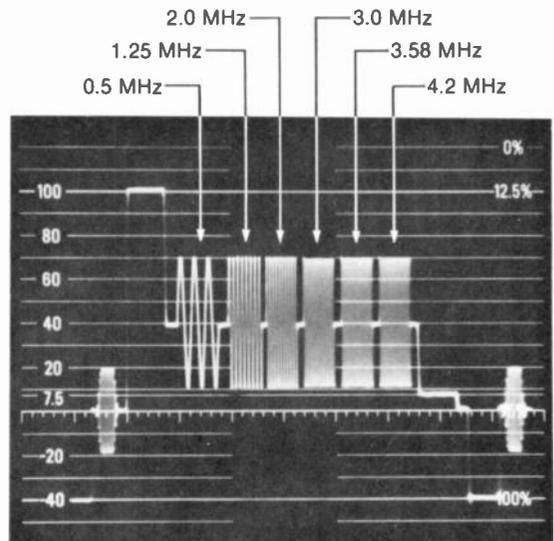
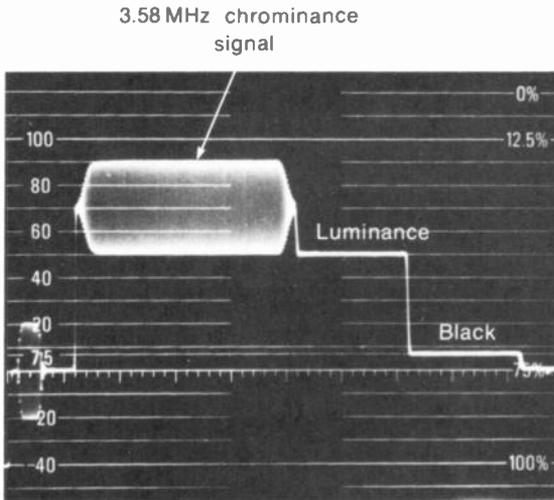

FIGURE 5-17 MULTIBURST TEST SIGNAL TRANSMITTED DURING LINE 18 OF VERTICAL BLANKING IN ODD FIELDS. (TEKTRONIX INC.)
FIGURE 5-18 VERTICAL INTERVAL REFERENCE (VIR) SIGNAL TRANSMITTED DURING LINE 20 OF VERTICAL BLANKING IN BOTH FIELDS. (TEKTRONIX INC.)
1. Multiburst at the frequencies of 0.5, 1.25, 2.0, 3.0, 3.58, and 4.2 MHz (see Fig. 5-17).
2. Vertical interval reference signal (VIRS) for checking chrominance and luminance (Fig. 5-18). The phase of the test chrominance signal is the same as burst phase.
The multiburst test signal of Fig. 5-17 is inserted on line 18 of odd fields. Line 18 of even fields has a color-bar test signal. The VIR signal of Fig. 5-18 is inserted on line 20 of every field. Line 1 in odd fields is counted from the first to the third equalizing pulse. Remember these pulses occur at one-half the horizontal line rate. In even fields, line 1 starts from the second equalizing pulse.
12. VITS indicates the vertical interval test signals transmitted during vertical blanking time. VIRS indicates the vertical interval reference signal. (See Figs. 5-17 and 5-18.)
20. The VIR test signal in Fig. 5-18 is transmitted during horizontal blanking time.